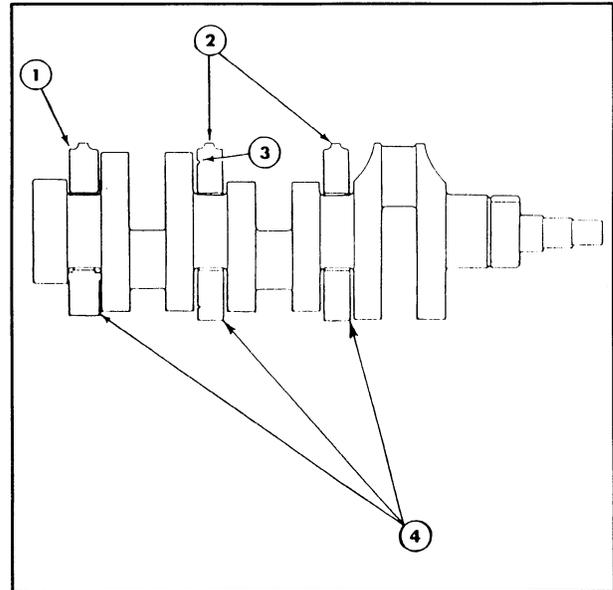

Figure 6
7. Reinstall the bearing holders on the crankshaft. Be sure the holders are correctly positioned on the shaft, and that the stepped part is facing forward, Figure 6.